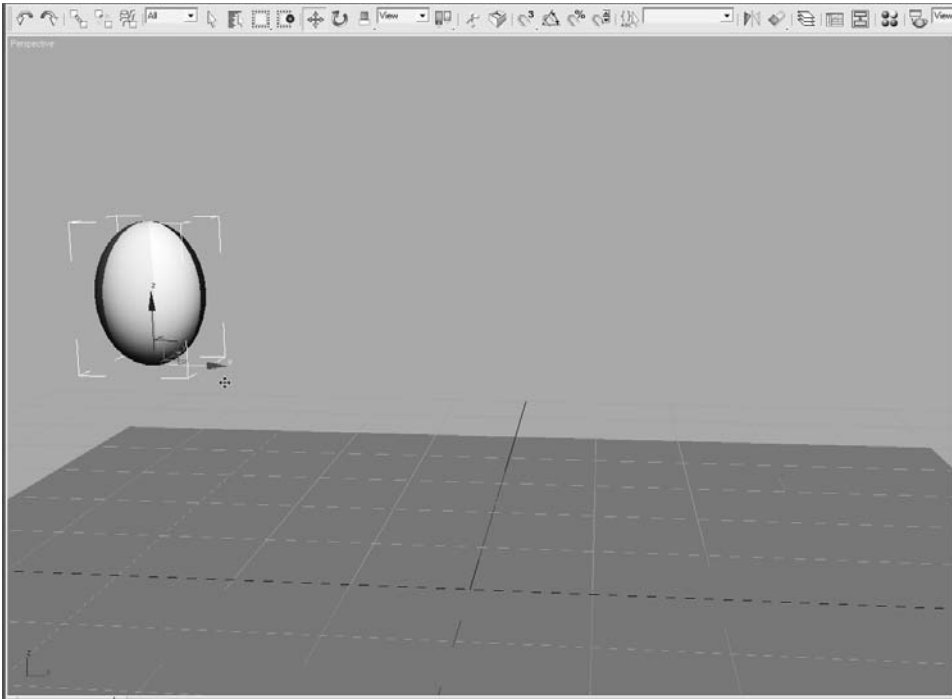

Figure 8.35
1. Move the Time slider to frame 0. Select the ball with the Select and Move tool, and move the ball in the Perspective viewport to the left so it is still within the camera's view. That would be about  $-30$  units in the  $X$ -axis (Figure 8.35).